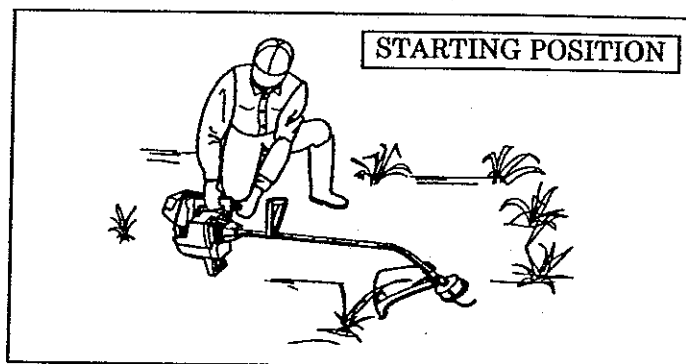

Figure 9
- Extend line approximately 6 inches from Trimmer Head to provide adequate load on engine. Figure 9 .
- Rest Engine and Shield on ground, supporting Trimmer Head off ground away from trees, bushes, onlookers, etc. Figure 9 .